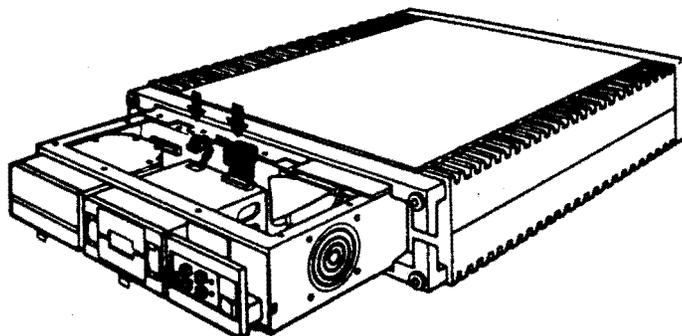

Figure 4-21: RX50 Cable Connection
1. Slide the drive into the chassis to reconnect the dc power and signal cables (Figure 4-21).